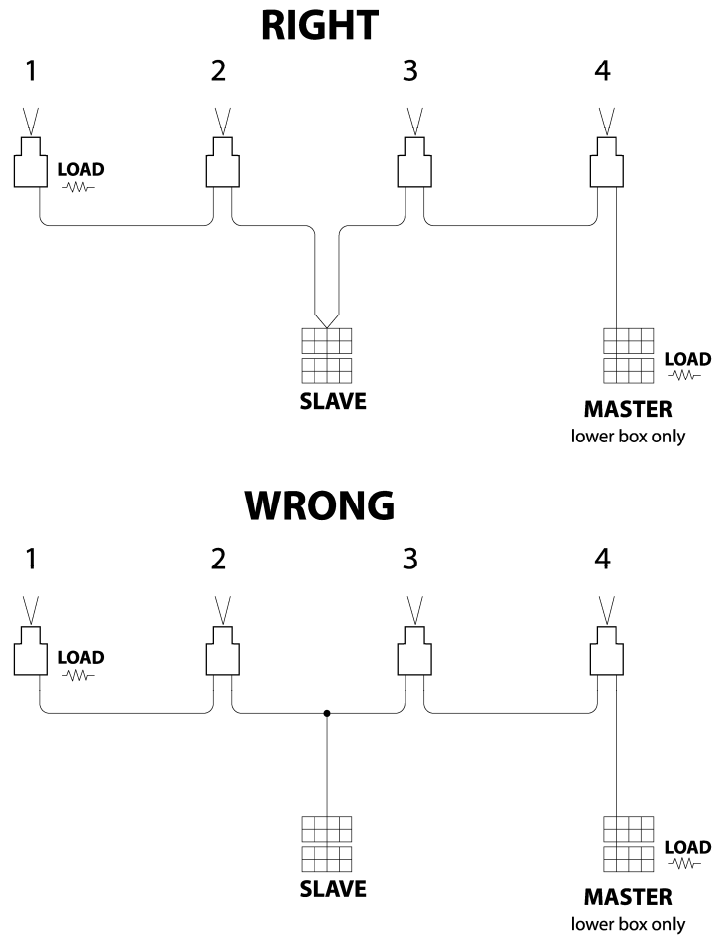

Figure 17: Data Link Daisy Chain Wiring
3. The bus is wired as a daisy chain with no Ts or Ys. See Figure 17 below.